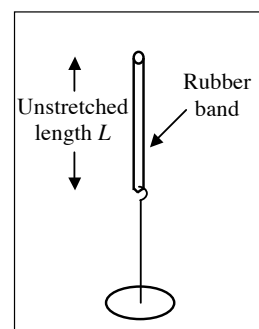

Figure 1 Set-up
- The rubber band is hung from a thin rod and supports a weight hanger on which weights can be loaded — see figure 1. With a second stand clamp a metre rule so that the position of the bottom of the weight hanger can be read off on the millimetre scale.